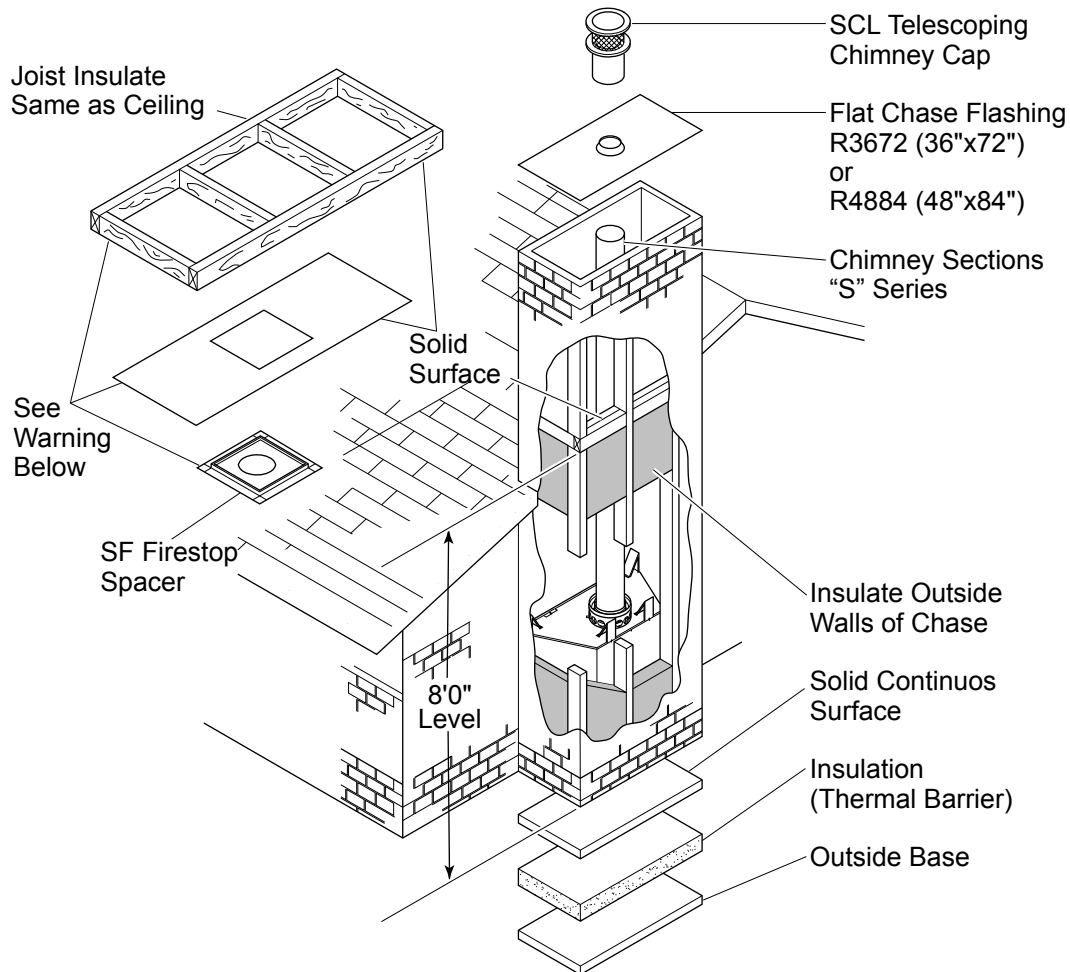

Figure 5 - Installing Fireplace on an Outside Wall
- If the fireplace is to be installed on an outside wall, the surrounding walls (chase) must be constructed and insulated. See Figure 5. If you do not insulate the fireplace from outside temperatures, heat loss through and around the fireplace will occur.